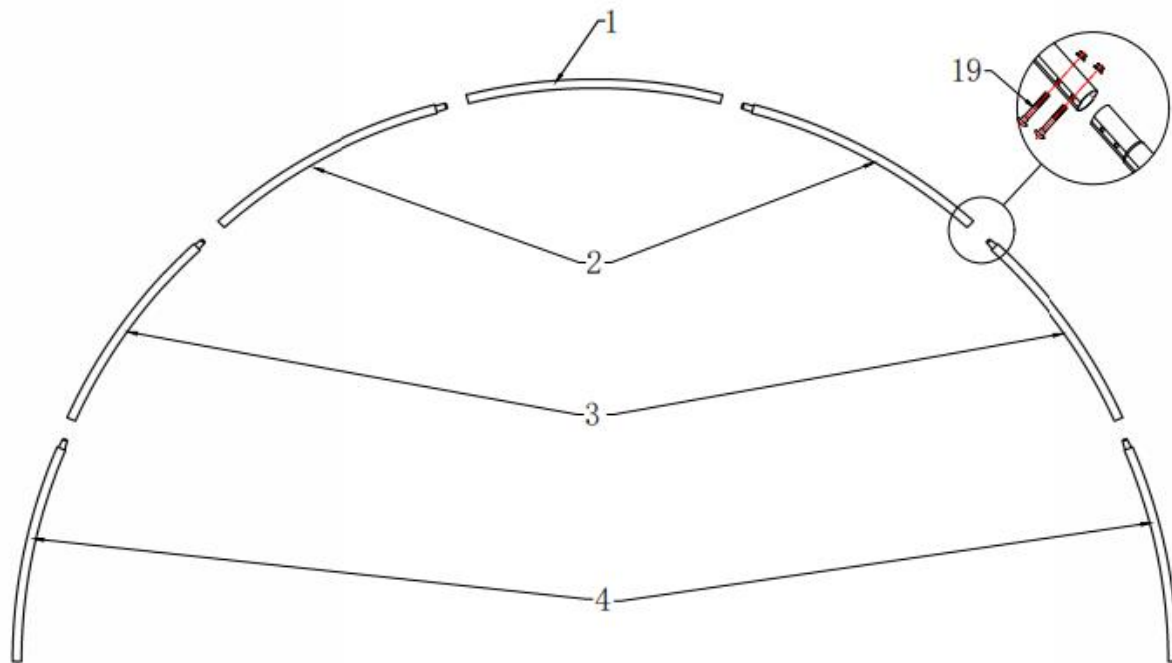
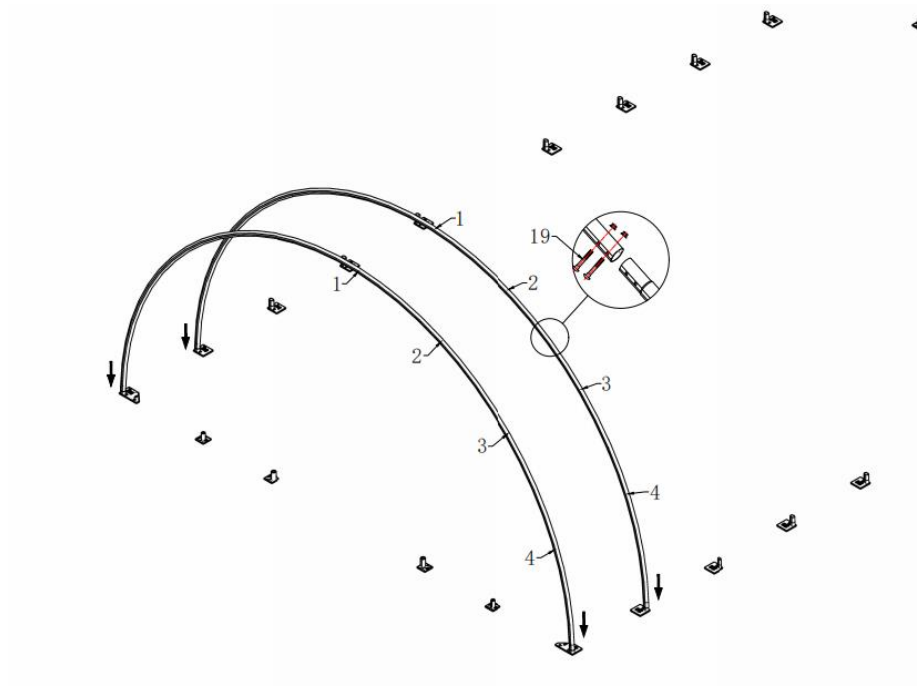
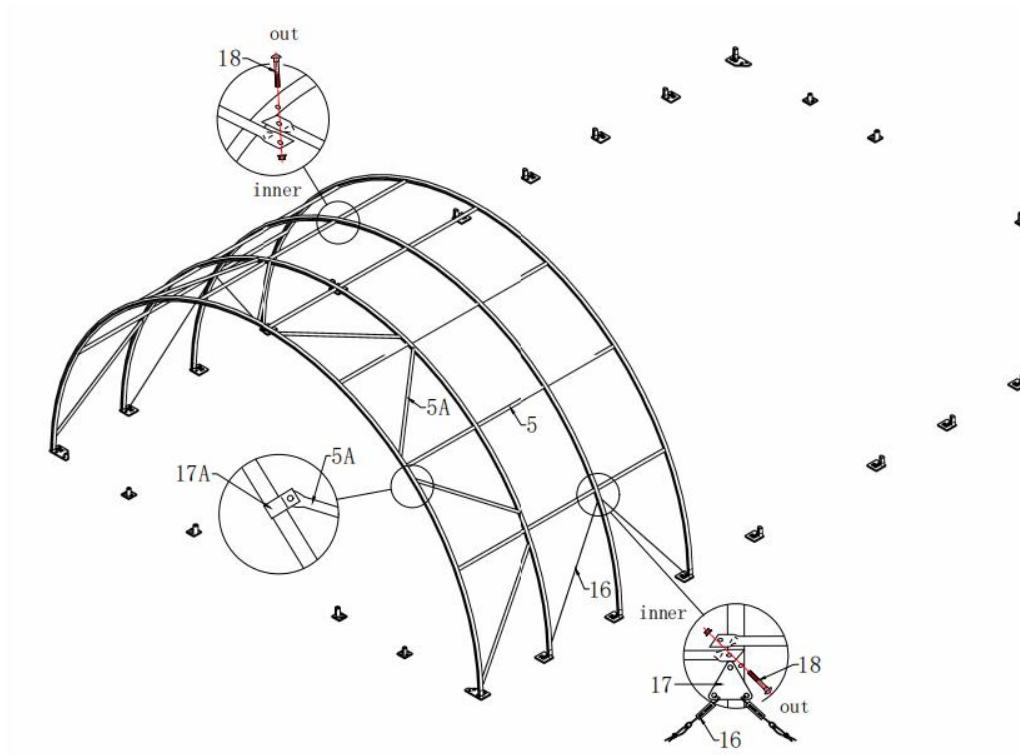

Figure 3
Figure 4
Figure 5
1. (Part No. 1*1+No.2*2+No.3*2+No.4*2) as Figure 3 and Figure 4 shown to find one piece of roof bent tube (No.1), two pieces of upper bent tube (No. 2), two pieces of sidewall tube (No.3), two pieces of lower bent tube (No. 4) . Connect them by using carriage bolt 10*90mm (No. 19), which makes the first group of front door arch frame. Put the first group of arch frame into the base plates.
2. Put the second group of arch frame into the base plates like the figure 4 shows. Use purlins (No.5) to connect them by carriage bolt M12x110(No.18) and triangle steel plates (No.17), put the steel wire (No. 16) between two sidewall arches, and use clamps to fix the support tube (No. 5A) on the roof frame, then install the third arch into the base plate and connect the purlins. In this turn to fix all other arches and purlins as Figure 5 shown until the frame is completed.